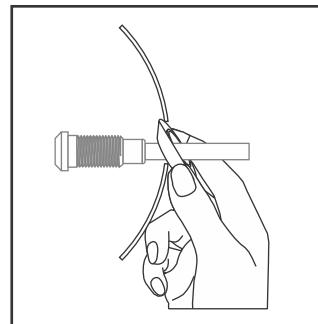

Fig. 44: Install Seal
5. Install Seal: Slide the seal, flared side away from the hole, onto the handle. Using thumb and forefinger, squeeze the seal together and work it into the hole around the handle. (Fig. 44)
5. Install Seal: Slide the seal, flared side away from the hole, onto the handle. Using thumb and forefinger, squeeze the seal together and work the seal into the hole around the handle. (Fig. 44)